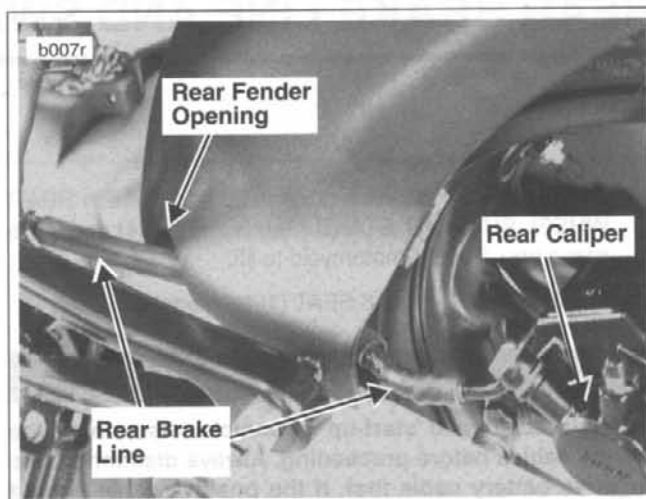

Figure 2-58. Rear Brake Line Routing
3. See Figure 2-58. Working from the right side, install brake line and align metal portion of brake line with rear master cylinder. Route caliper side of brake line in front of tie bar and through rear fender opening to rear caliper.